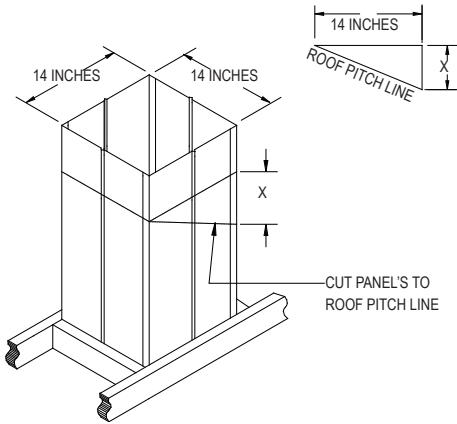

Figure 8
5. Cut Roof Opening: Cut an opening in the roof directly above the opening below, and at least 4 inches larger than the chimney’s outside diameter to provide at least a 2-inch clearance all around the chimney. If the installation is located between rafters that are 16 inches on center, Close Clearance Shields (a sheet metal product fabricated by DuraVent), may be used to avoid structural reframing. (**Figure 8**). The 2-inch minimum clearance to combustibles is not required when the chimney passes through Close Clearance Shields. When using Close Clearance Shields, Ventilated Flashing must be installed. Refer to **Figure 10**, which pictures both Ventilated and Non-ventilated Flashing.